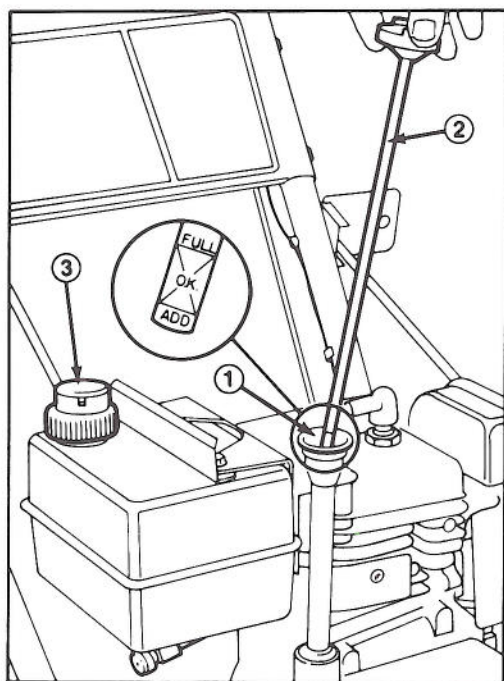

Figure 12
3. Remove dipstick from crankcase (Fig. 12).
4. Slowly, pour 21 ounces (0.621 l) of SAE 5W30 or SAE 10 oil into the filler hole (Fig. 12). The engine uses only high-quality detergent oil having the American Petroleum Institute —API— “service classification” SC, SD or SE.
1. Clean area around the fuel tank cap. Remove cap from fuel tank and fill tank to within 1/2 inch (13 mm) from the top with gasoline. Reinstall fuel tank cap (Fig. 12).